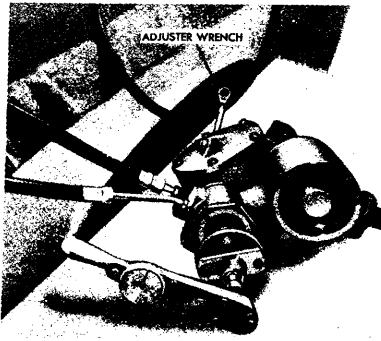

FIG. 28—Adjusting Centering Spool
23. If the torque wrench reading is more than 3 inch-pounds between the right and left turns, loosen the valve spool adjuster lock nut and rotate the adjuster in the direction of the low reading (Fig. 28). Only a slight movement of the adjuster is required to move the valve spool. Tighten the adjuster lock nut before each reading is made.